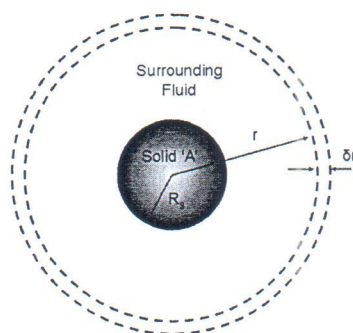

Figure Q.3.[b] Sphere A immersed in an aqueous environment.
- [b] A solid sphere mainly composed of A with diameter of $10 \mu\text{m}$ is placed in a large body of unstirred, aqueous solution in Figure Q.3.[b]. The solubility of ' A ' is 0.0005 g/cm^3 and the molecular size of A is 5 nm . If the flux of A going into the surrounding media obey Fick's first law: